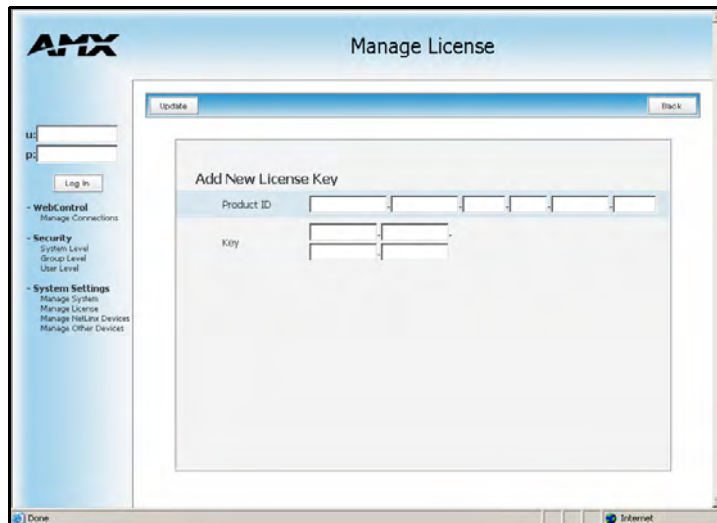

FIG. 73 System Settings - Add New License Key page
2. Click the **New** button to be transferred to the Add new License Key page (FIG. 73).